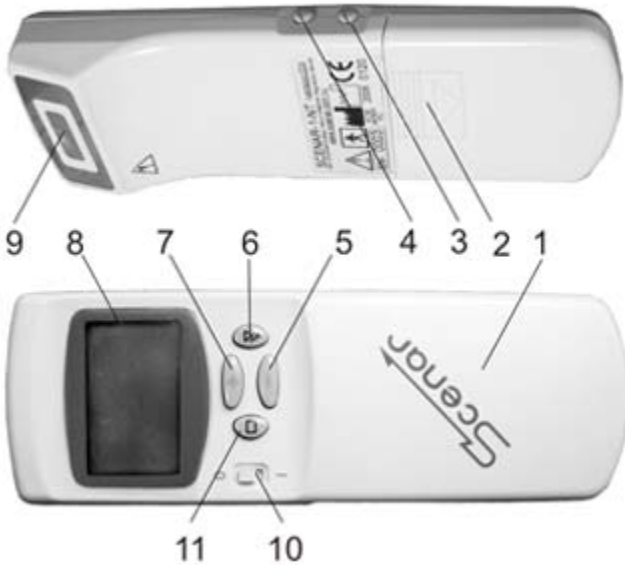

Fig. 1
4.1 The device is illustrated in Fig.1. The device has an upper cover 1 with a screen 8, case with a built-in electrode 9 and a battery cover 2. All components except for the batteries are located on the printed circuit board inside the device's case.